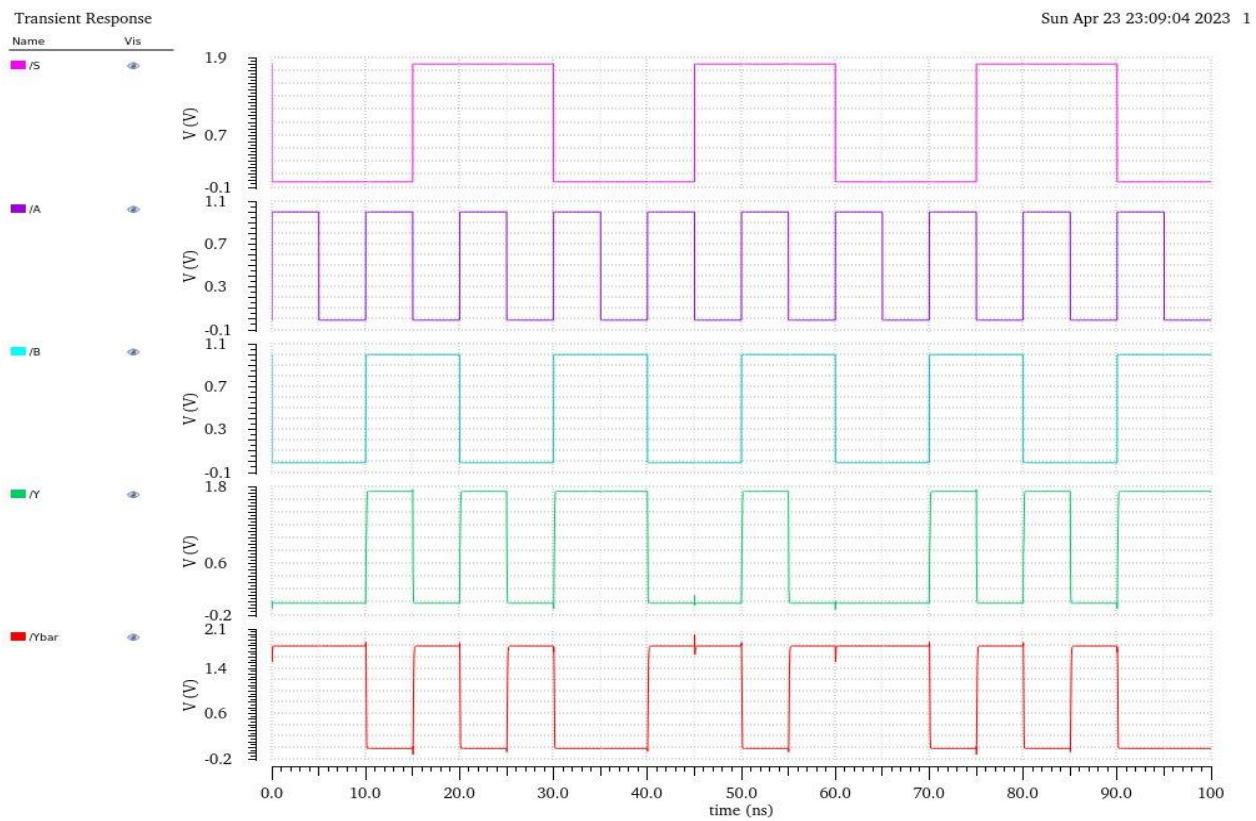

Figure 1.4
- Figure 1.4 indicates an analysis of 100ns.